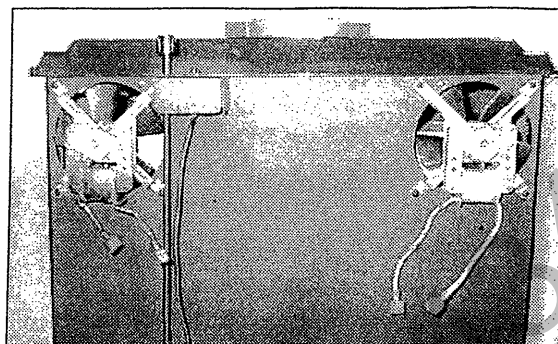

Figure 18
2. Install each fan in the openings in the backshield with the screws from the cover plates. See Figure 18. Install with the motor windings to the bottom. See Figure 18.